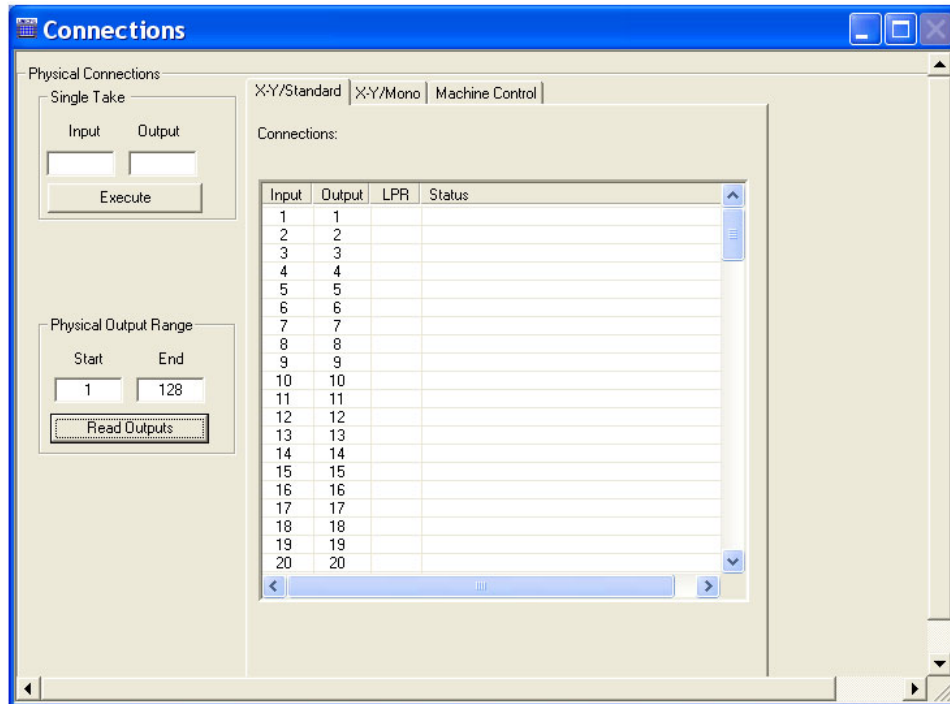

Figure 10-6. Example of Connections Window with Standard Tab in Front
- 2 From the menu bar, select 'Window > Connections'. The 'Connections' window appears with blank fields. (See Figure 10-6 on page 93.) The 'Connections' window must be active to activate the necessary menu bar options.
- 2 From the menu bar, select 'Window > Connections'. The 'Connections' window (Figure 10-6 on page 93) appears with blank fields. The 'Connections' window must be active to activate the necessary menu bar options.
- 4 If not already in front, select the 'X-Y/Standard' tab, as shown in Figure 10-6. Each input is listed with its corresponding output.
- 5 In the 'Physical Output Range' section, enter a 'Start' and 'End' number in the fields provided and click Read Outputs. The corresponding inputs and outputs display on the tab, as shown in Figure 10-6. The current router switching configuration displays.
- 3 From the menu bar, select 'Window > Connections'. The 'Connections' window appears with blank fields. (See Figure 10-6 on page 93.)
- 6 Click Read Outputs. The corresponding inputs and outputs display on the tab, as shown in Figure 10-6 on page 93. The current router switching configuration displays.